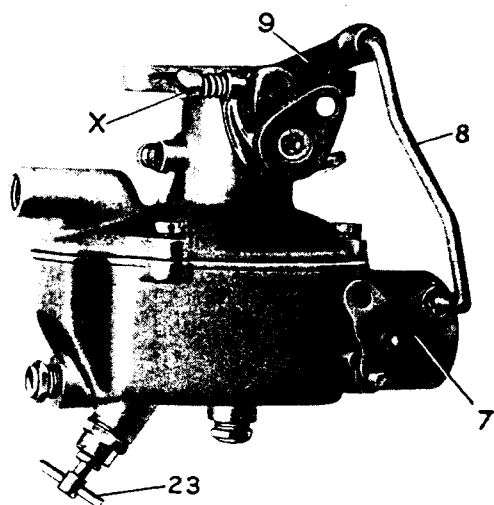
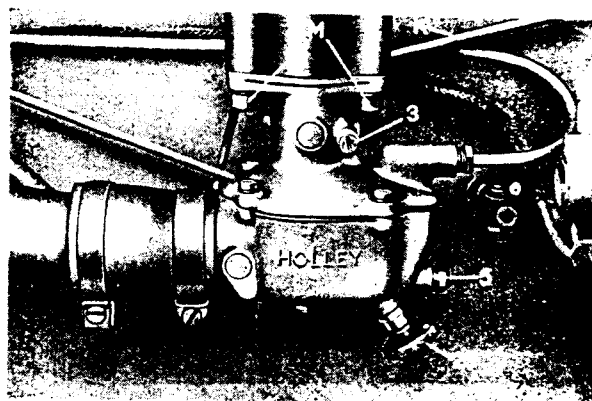

FIG. 22
FIG. 24
#### General Description. Fig. 22.
Fig. 22 illustrates the inter-connecting linkage between the choke and throttle plates whereby closing of the choke plate
This should be carried out when the engine is hot, the minimum running speed usually being set at 400 — 450 r.p.m. by adjustment of screw (X) Fig. 22, on throttle shaft lever. This should be turned clockwise to increase idling speed and vice versa. An approximate setting for the slow running mixture screw (3), fig. 24, is  $\frac{1}{2}$  to 1 turn open from the fully closed position. If, however, there is evidence of rich running i.e. black smoke from the exhaust, or "hunting," the screw should be gradually turned in an anti-clockwise direction until the engine runs cleanly and evenly.
Thoroughly warm the engine and adjust slow-running mixture as instructed. Screw in main jet adjusting screw (23) gently until seated, and then unscrew 2 turns open. Figs. 22 and 24 show alternative types of main jet adjuster (23). When the adjustment is correct and the engine warm, it should be possible to open the throttle quickly and obtain an immediate response in engine speed. Should the engine hesitate, open the main jet one eighth of a turn at a time until the immediate response is obtained, without evidence of black exhaust smoke or "hunting."
### To Remove Carburetter. Fig. 24.